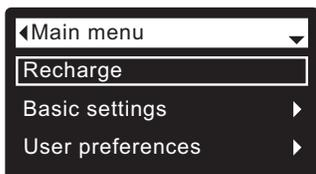

FIG. 29
During normal operation (status screens rolling), press the filter’s SELECT (O) button to display the Main menu (See Figure 29). This menu and its subsidiary screens are used to control these operations: